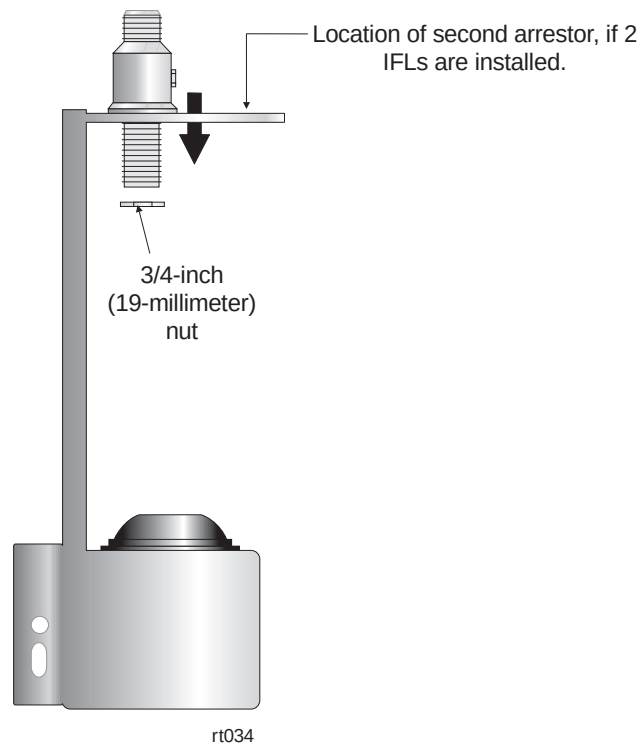

Figure 4-6 Attaching the arrester to the arrester body
1. Attach an RF arrester to the arrester body with a 3/4-inch (19-millimeter) nut. See figure 4-6.